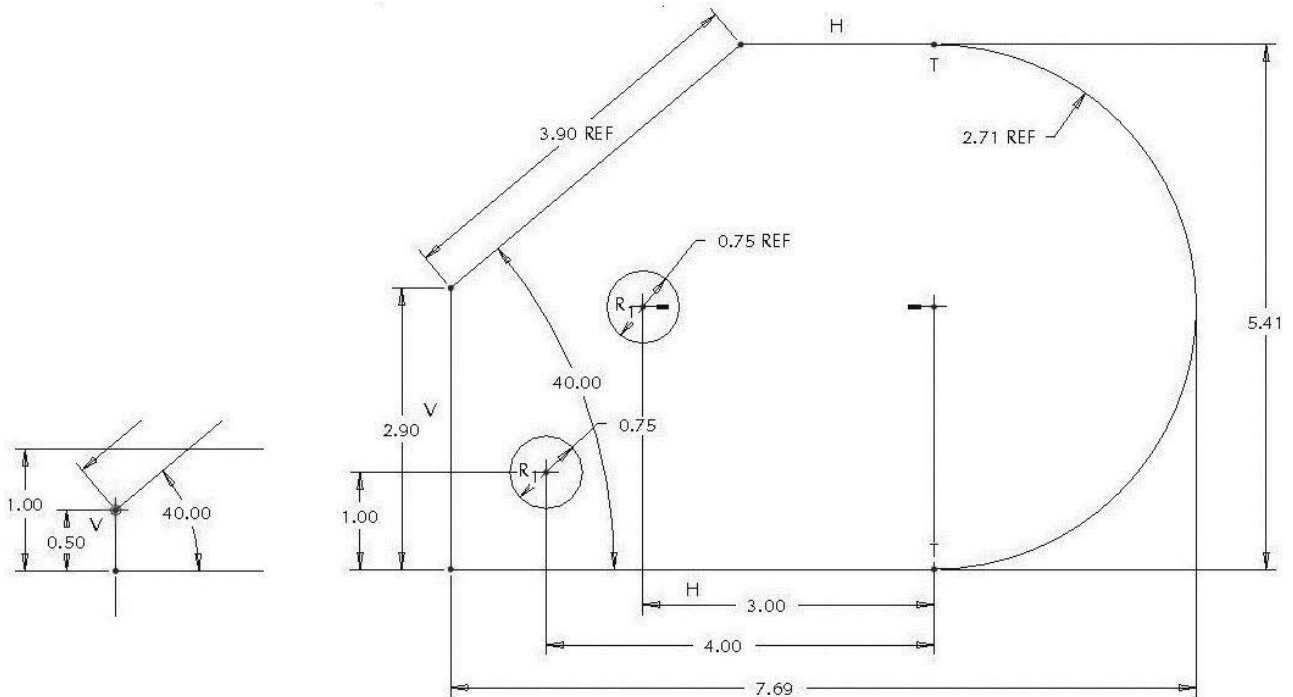

Figure 3-25 Design Intent, 0.50 Changed to 2.90
Step 10: Move the cursor onto the point where the left vertical line meets the slanted line, then *press* the LMB. The point will turn red. *Press down* the LMB, then move the cursor upward. The point will follow the cursor. Move the point to the left and right. As you move the point observe the dimensions on the figure. Note that the left small hole and its size do not change since it references the horizontal distance to the center of the big radius and the vertical distance from the bottom of the figure. See Figure 3-25. What dimensions change or do not change, and why?